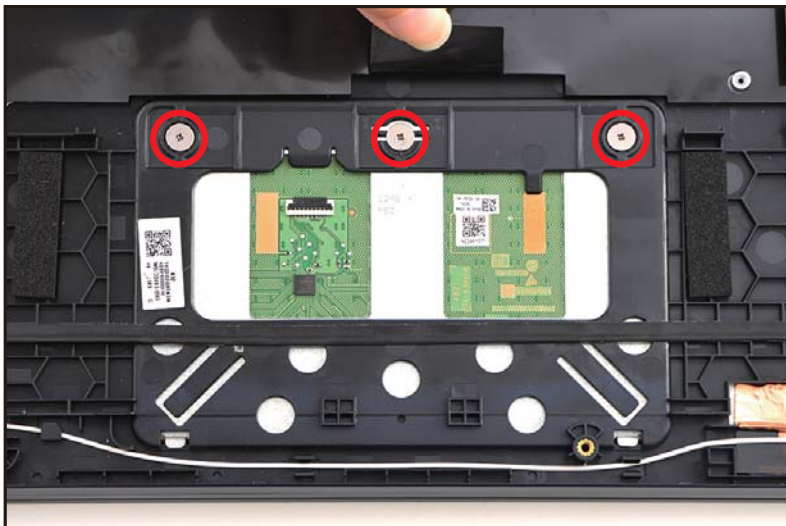

Figure 1-34. Touchpad Module Removal
3. Remove three (3) screws securing the touchpad module (Figure 1-34).